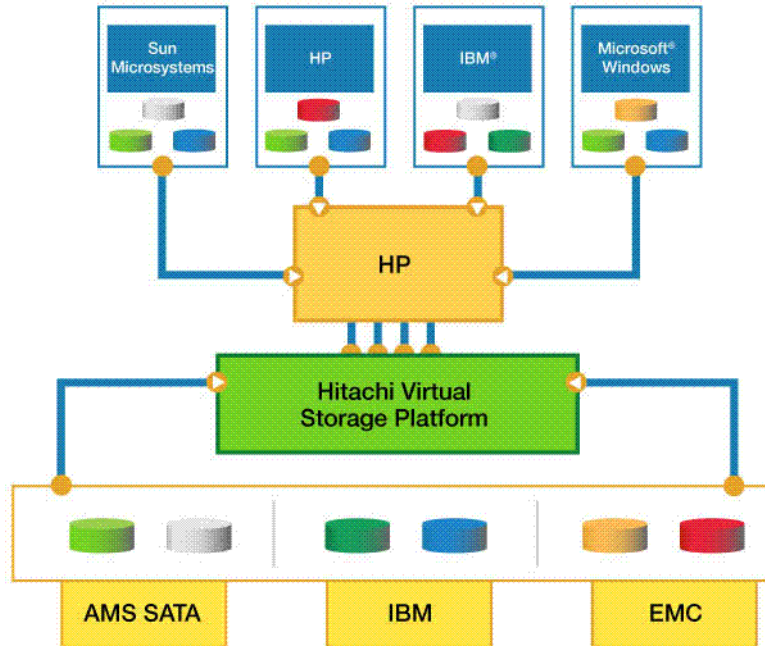

Figure 10-1: Hitachi's Virtual Storage Platform
2. You begin the process of virtualization using Hitachi Virtual Storage Platform. Figure 10-1 details the approach to Virtualization.
Figure 10-1 shows that when one HBA is down with either hardware or link failure, another HBA on the host can still provide access to the storage resources. When ESX 4 hosts are connected in this fashion to a HUS 100 family storage system, hosts can take advantage of using round robin multipathing algorithm where the I/O load is distributed across all available paths. Hitachi Data Systems recommends a minimum of two HBA ports for redundancy.